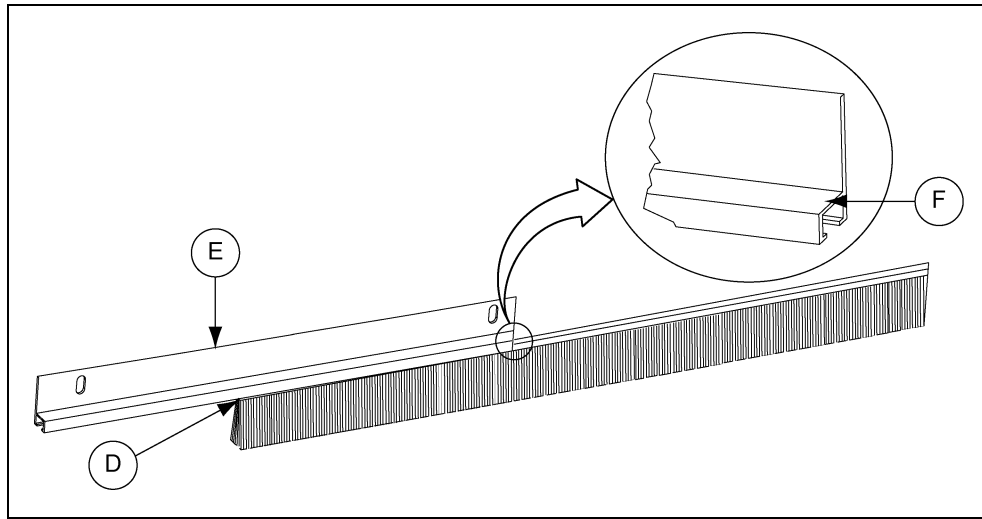

Figure 7I
2. Install one end of the brush (D) to the end of the brush holder (E) and guide the brush along the slotted groove (F). *(See Figure 7I.)*